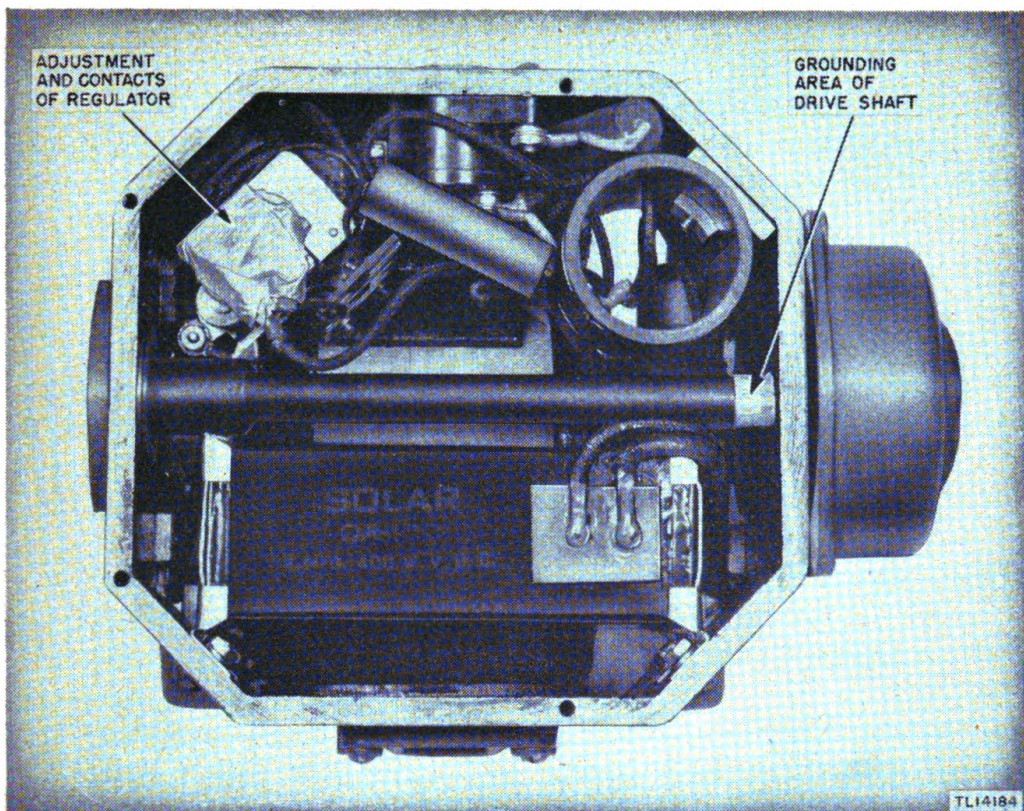

FIGURE 40.—Generator GN-44- ()—view with top cover removed showing method of masking parts.
- (3) Adjustment and contacts of regulator (fig. 40).
- (4) Grounding area of drive shaft (fig. 40).